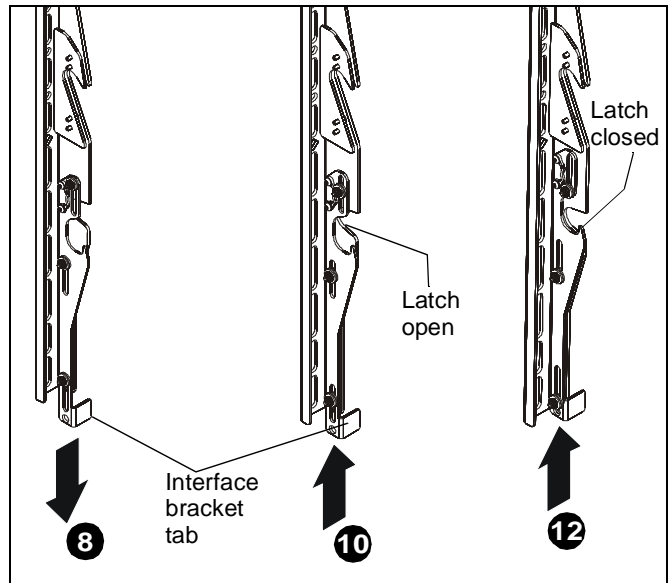

Figure 10
8. Push interface bracket tab all the way down so that the lower mounting slot is blocked. (See Figure 10)
12. Raise interface brackets tabs all the way to secure the brackets onto the wall mount. (See Figure 10)